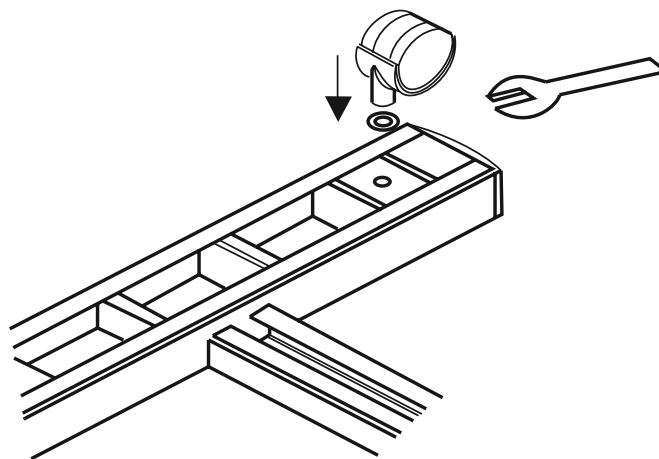

Figure 2-4
- Insert the black wheels with washers into the holes on the bottom of H-shape stand as shown in Figure 2-4. Use the wrench to fasten them.